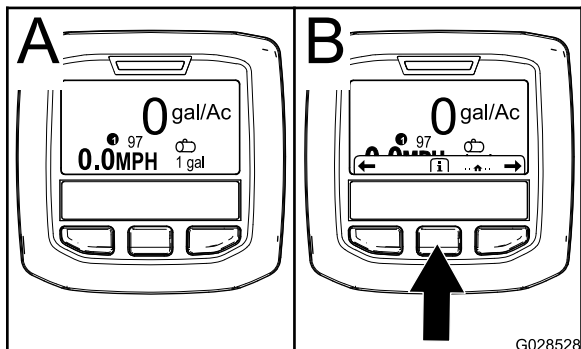

Figure 60
2. After approximately 15 seconds, the home screen appears. Press the center selection button to display the information context (Figure 60).